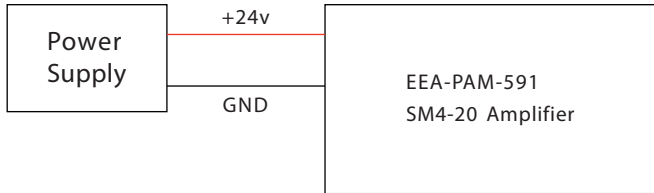
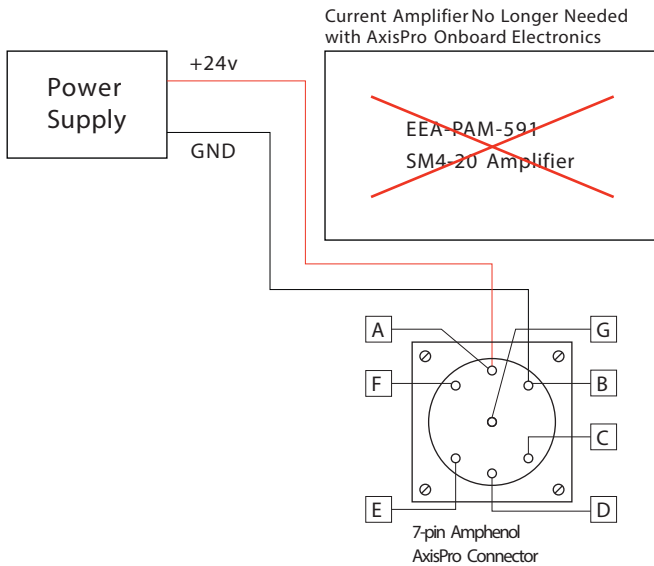

Figure 6. Wiring prior to mounting the AxisPro valve.
Figure 7. Wiring after mounting the AxisPro valve.
1. Supply 24V volts (DC) and rated to 3.5 Amps to AxisPro valve (Figure 6 and Figure 7).